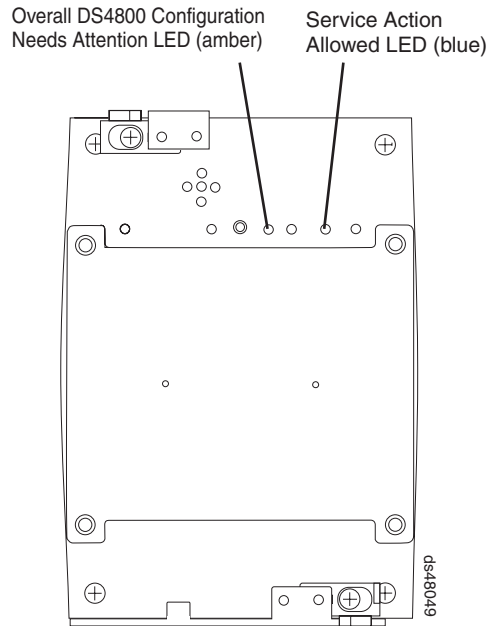

Figure 92. Interconnect-battery unit Needs Attention and Service Action Allowed LEDs
4. Is the Service Action Allowed status LED turned on? (Figure 92 on page 150 shows the location of the Service Action Allowed status LED on the interconnect-battery unit.)